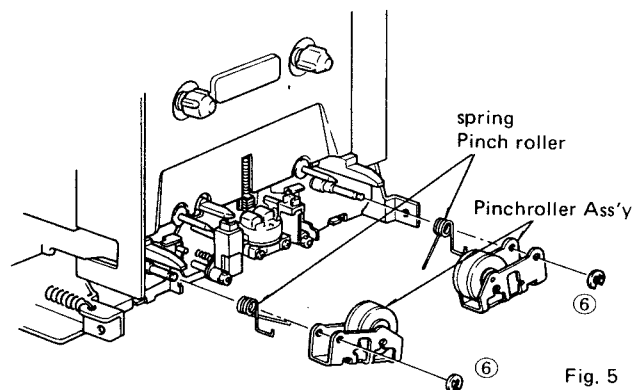

Fig. 5
- Remove the Ering ( ⑥ ) in fig. 5.